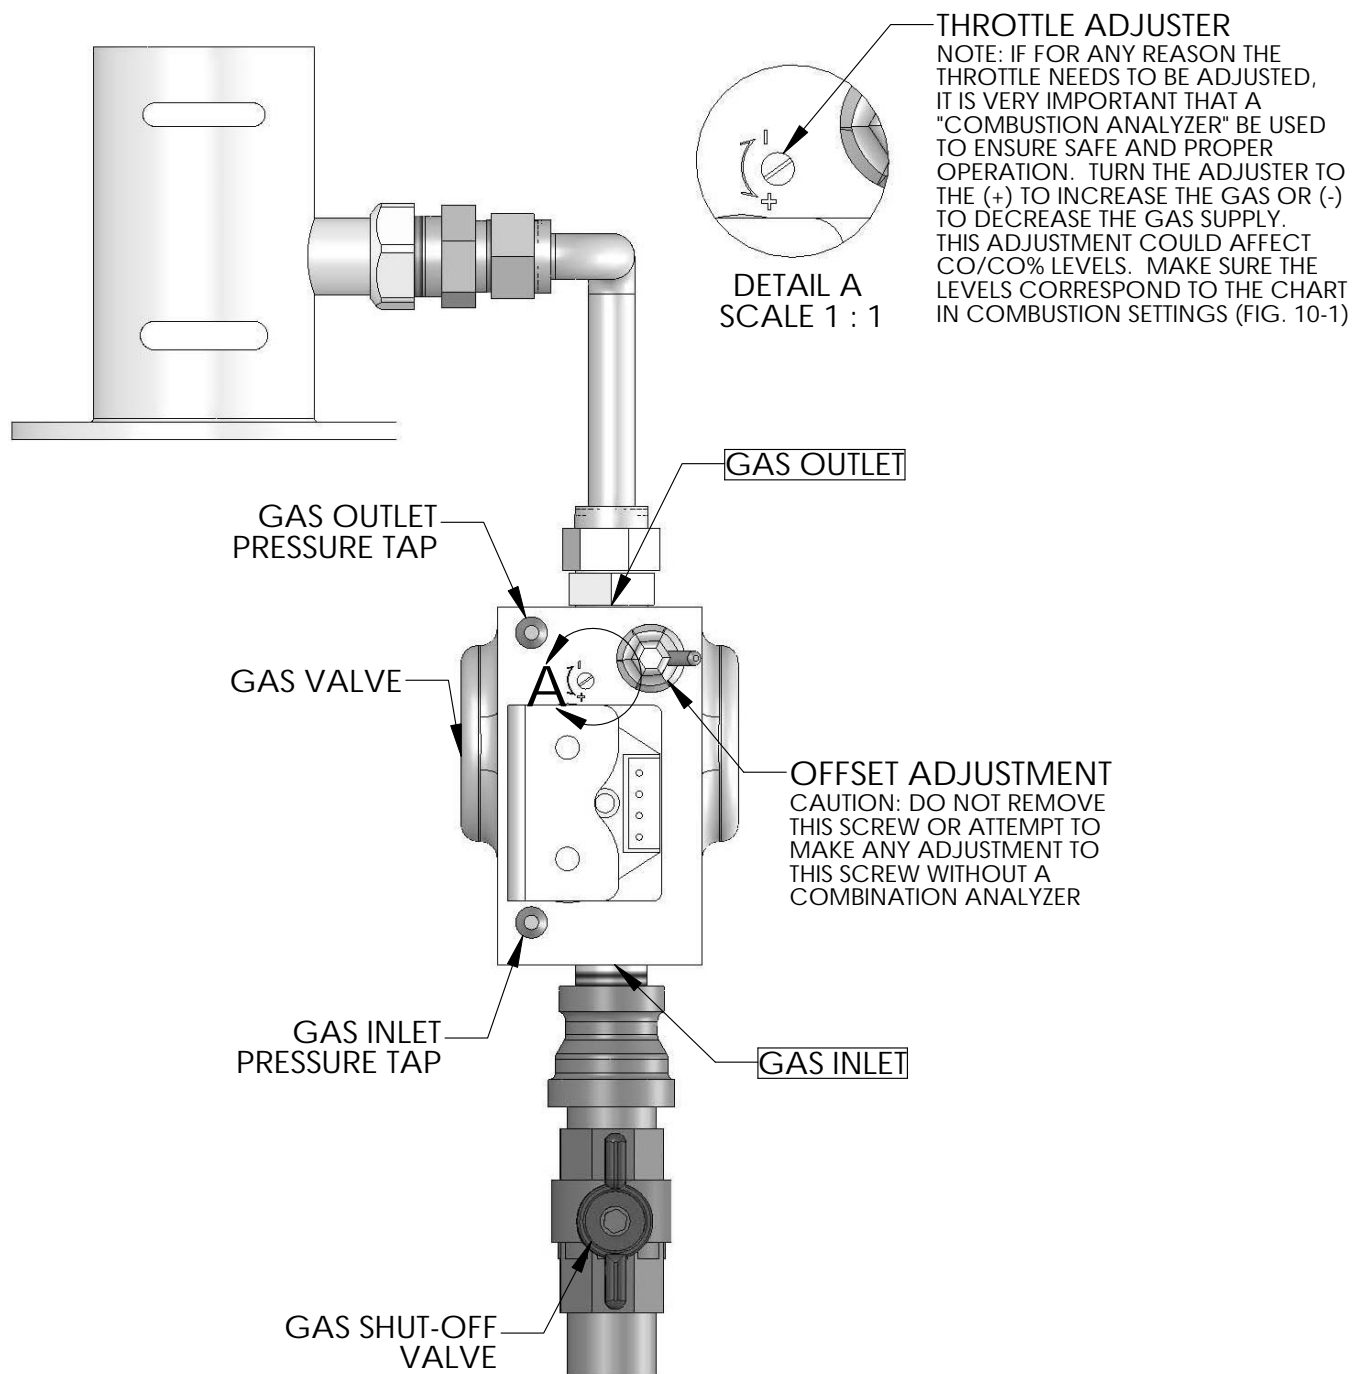

Fig. 7-2
2. Loosen the pressure tap with a small screwdriver. Refer to Figures 7-2 for location.